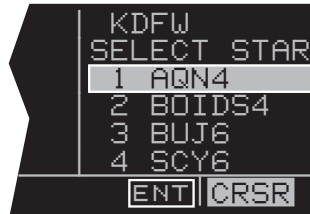

Figure 6-39
3. Turn the right cursor on by pressing the right **CRSR**, and, if necessary, rotate the right outer knob until the flashing cursor is over the desired STAR. With the cursor over AQN4 (figure 6-39), press **ENT**.